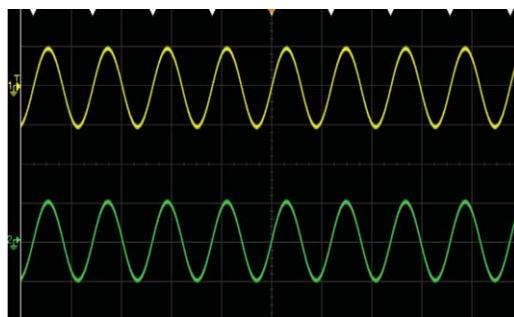

Figure 3. Tracked waveforms with the same output
- Identical – the two channels have the same output (Figure 3)